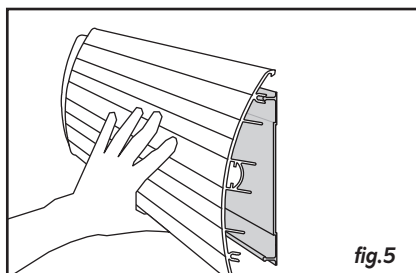

fig.5
- Now mount the PVC profile onto the brackets or rail by striking it firmly, using a rubber mallet where necessary. Finally, check that the PVC profile is properly snap-fitted over all the brackets or along the full length of the rail (fig.5 and fig.6).